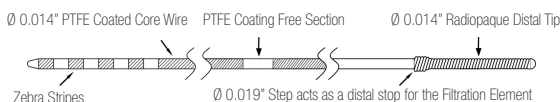

Figure 1
The BareWire Filter Delivery Wire (Figure 1) is a 0.014" PTFE coated stainless steel wire with a 3 cm platinum / nickel radiopaque distal tip section. The Filter Delivery Wires in the BareWire range have zebra stripes on the proximal end for ease of identification.
- Unclip the torque device (Figure 10). Ensure that the torque device is securely tightened on the coating free section of the BareWire Filter Delivery Wire (refer to Figure 1). The torque device can be re-tightened if required. Carefully pull the torque device in a controlled manner to retract the BareWire Filter Delivery Wire and observe the Filtration Element being retracted through the Loading Funnel into the Delivery Catheter Pod. The device is fully loaded when the distal marker band on the Filtration Element is at or inside the end of the delivery catheter pod and a definite stop is felt (refer to Figure 11).